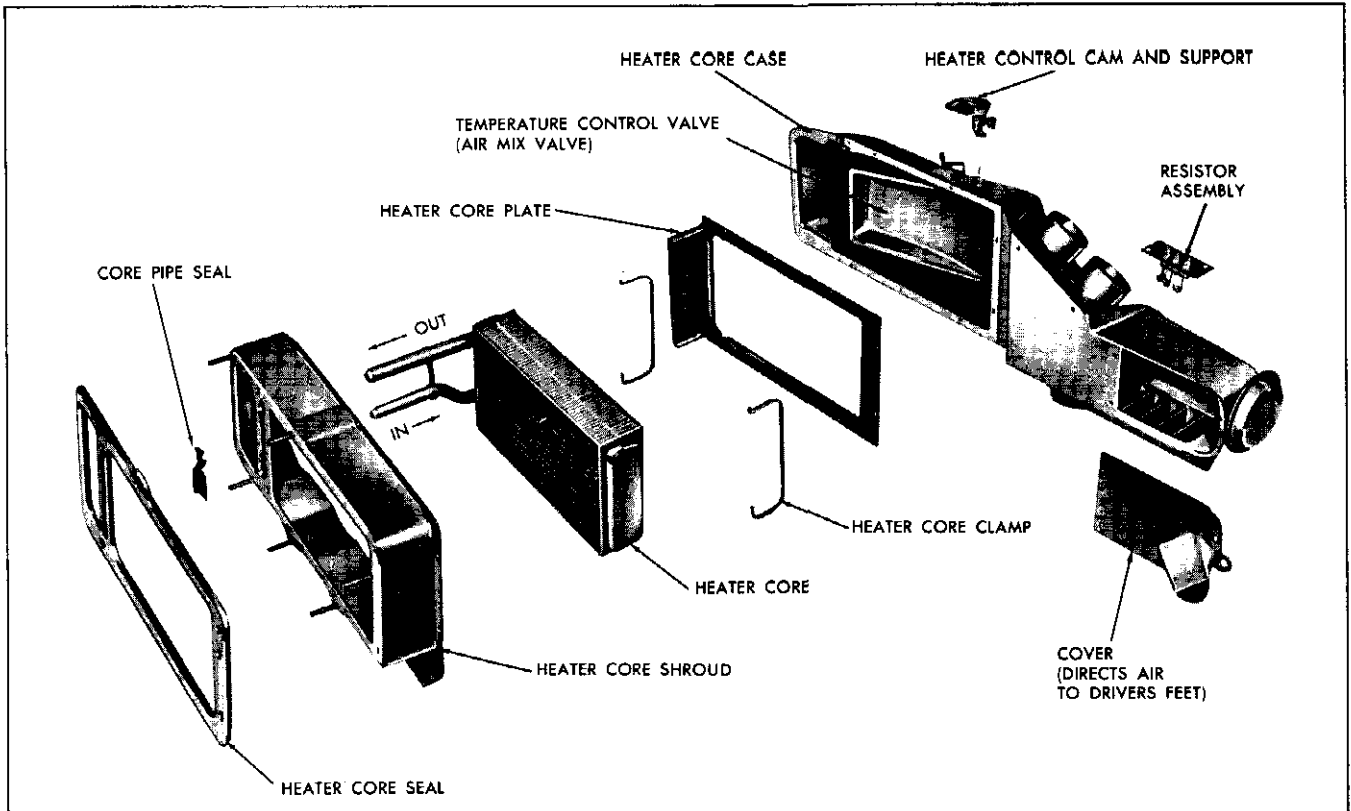

Fig. 1-25 Circ-L-Aire Heater Core and Case Assembly (Heater Only)—Exploded View
12. Remove the heater core assembly noting position and location of seals (Figs. 1-25 and 1-26).